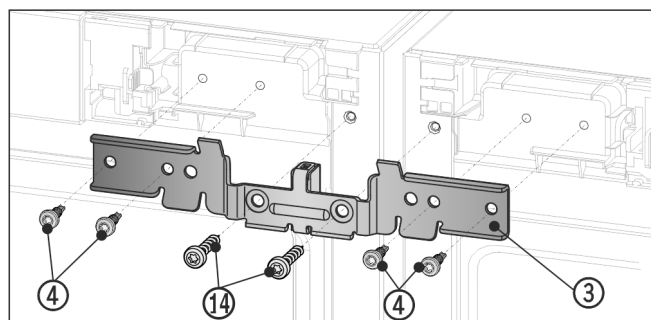

Fig. 12
- ▶ Slide the bracket Fig. 12 (3) onto the pins with the spacer between the appliances. Loosely screw in the brackets alternately right and left with four screws Fig. 12 (4) and the previously removed earthing screws Fig. 12 (14).